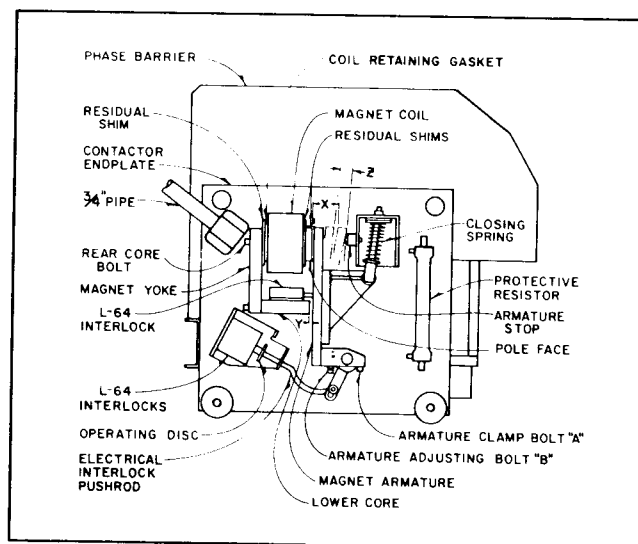

Figure 6
- a) Loosen the two bolts at "A", in Figure 6, which clamp the magnet armature to the shaft.
b) Block armature with 1" gap at point "X" Figure 6.
In carrying out general inspections, operate the magnet armature by hand. Any friction should be investigated and corrected. Check that the armature seats squarely without hitting the magnet pole face bolts, and that a  $3/32$ " to  $5/32$ " gap at point "Y" of Figure 6 has been maintained.
- 4) Install the new coil on the core assembly being sure the three residual shims and coil retainer gasket are mounted as shown in Figure 6.
A third type L-64 interlock which is used in the magnet coil circuit, to insert a protective resistor, is mounted on the lower magnet core and is operated directly by the magnet armature. In this application a "late break" operation is required so the interlock is permanently mounted in a position such that its contacts will open when the armature gap "X" of Figure 6 is approximately 3/16".